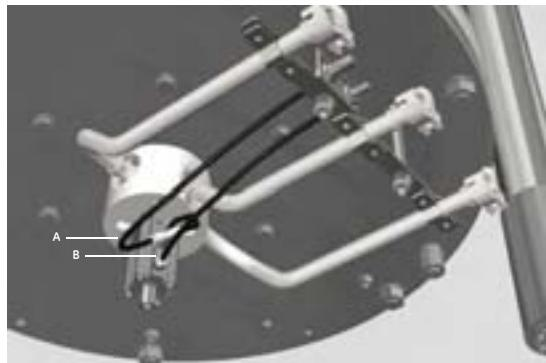

Figure 5.74: Pneumatic tubes A and B, the connection between the pneumatic cylinder and the tube holder.
- 3 Refit the pneumatic cylinder into the media valve outer body (see Figure 5.71 A). Ensure that the alignment of the pneumatic cylinder corresponds to Figure 5.74. Tighten the bolts (crosswise) in steps to 1.7 Nm.
- 8 Refit the two pneumatic tubes on the pneumatic cylinder according to Figure 5.74. Ensure that the 2 tubes are connected to the correct connectors.